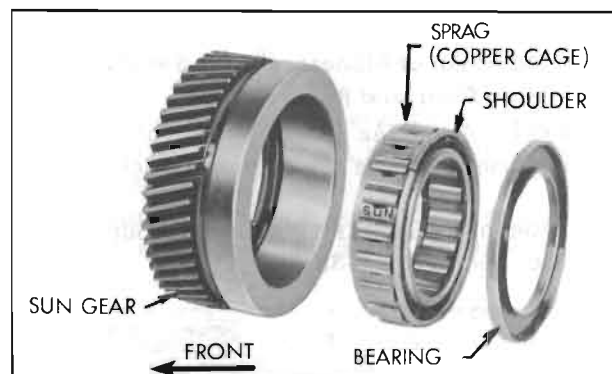

Figure 5-44—Sun Gear Parts
6. Remove bearing and sprag assembly from the sun gear. See Figure 5-44.
6. Install sprag in bore of sun gear with shoulder out then carefully press bearing in place. See Figure 5-44.